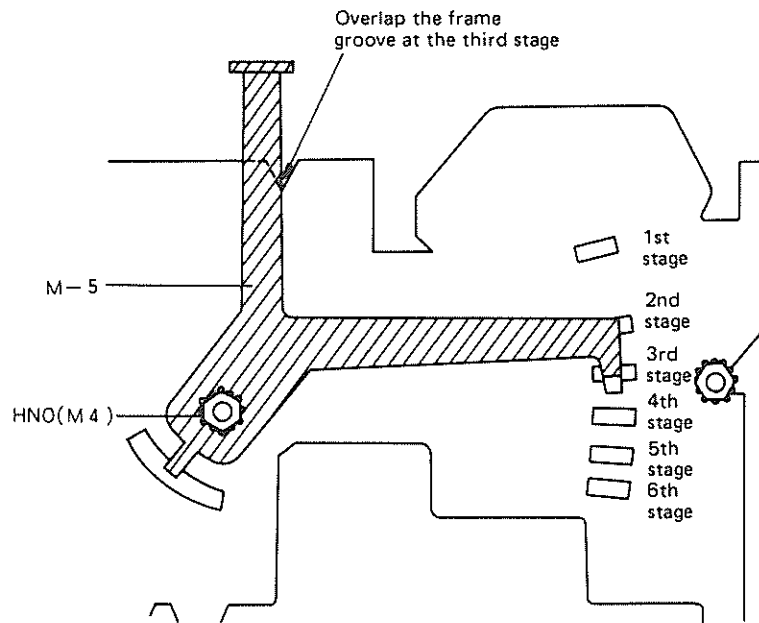

Fig. 4-29. Adjusting Lever
4.4.5 PRINT HEAD-PLATEN GAP ADJUSTMENT (Figs. 4-29, 30 and 4-31)
- Step 3: Set the adjust lever to the third step. (See Fig. 4-29)